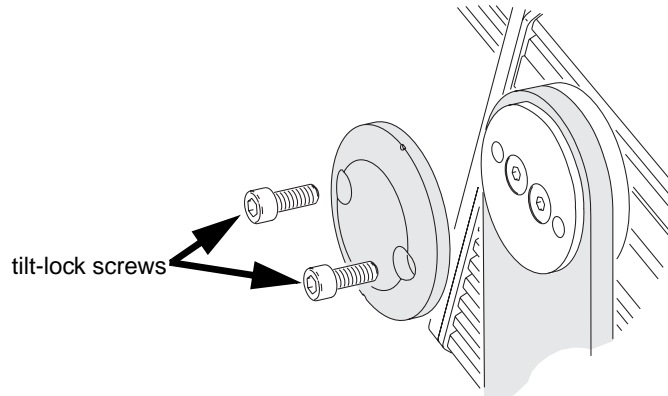

Figure 2: Tilt adjustment
2. See Figure 2. Loosen, but do not remove, the tilt-lock screws. Tilt the fixture to the desired angle and retighten the screws.